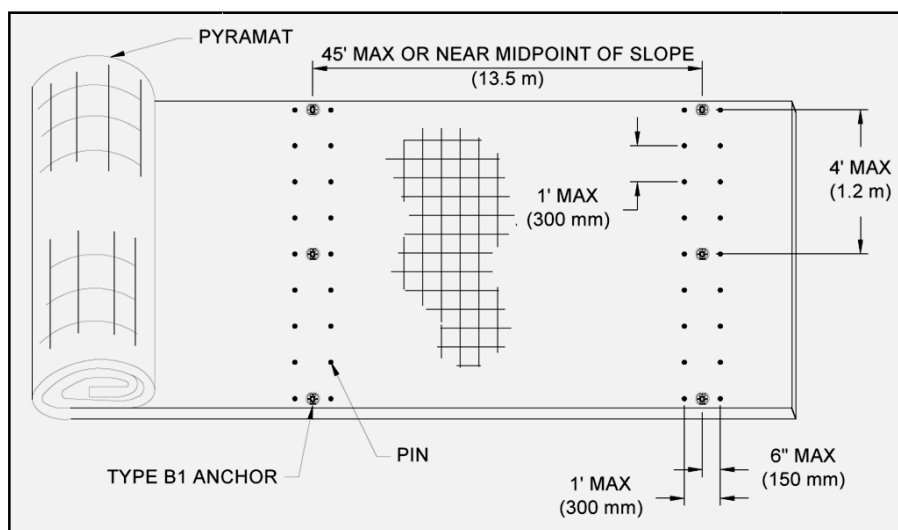

Figure 23: Simulated Check Slot
- For channel lengths greater than 45 ft (13.7 m), install simulated check slots. This method includes placing two rows of pins 12 in (300 mm) apart on 12 in (300 mm) centers and one row of PDEAs between the rows of pins on 4 ft (1.2 m) centers at 45 ft (13.7 m) maximum intervals or across the midpoint of the channel for channel lengths less than 60 ft (18.2 m) (Figure 23).